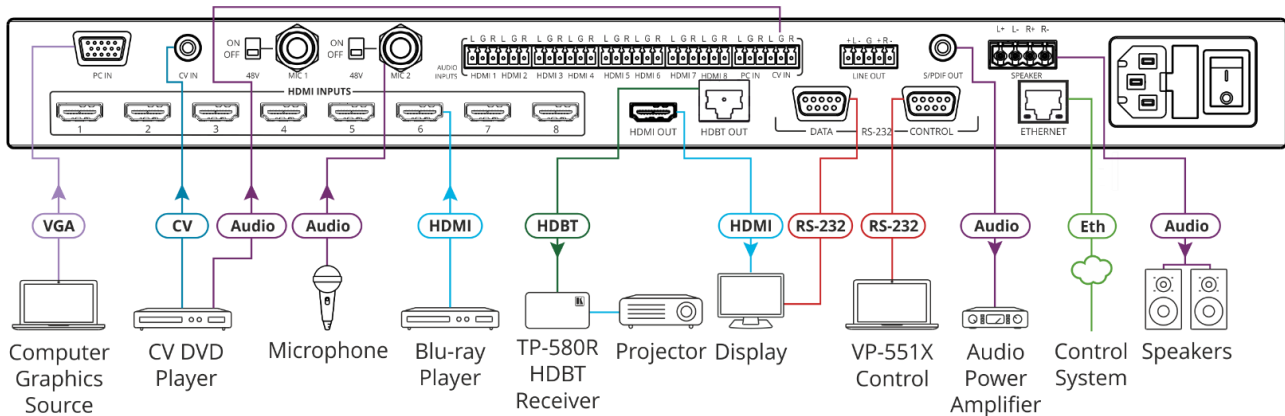

Figure 3: Connecting to the VP-551X Rear Panel
To connect the VP-551X as illustrated in the example in Figure 3:
3. Connect up to 8 HDMI sources (for example, a Blu-ray player to HDMI 5) to the HDMI connectors (12).
4. Connect up to 10 balanced audio sources (for example, the PC audio source to the CV IN AUDIO INPUT) to the AUDIO IN terminal block connectors (21).
5. Connect a microphone to the MIC 2 6mm jack (18) and set the 48V switch on or off, as required (14).
6. Connect the HDMI OUT connector (28) to an acceptor (for example, a display).
7. Connect the HDBT OUT connector (28) to an acceptor (for example, Kramer TP-580R receiver that is connected to a projector).
8. Connect the S/PDIF OUT RCA connector (28) to a digital audio acceptor (for example, an audio power amplifier).
9. Connect the SPEAKER 4-pin terminal block connector (24) to speakers (for example, Kramer Yarden 6-O speakers).
10. Connect the RS-232 DATA 9-pin D-sub connector (30) to the RS-232 port on the display to control it.
11. Connect the RS-232 CTRL 9-pin D-sub connector (31) to the RS-232 port on a controller (for example, a laptop) to control the VP-551X.
12. Connect the ETHERNET RJ-45 port (32) to the Ethernet.
13. Connect the power cord to the VP-551X mains socket (13) and to the mains electricity (not shown in Figure 3).
The LINE OUT 5-pin terminal block connector (22), audio acceptor, and power cord are not shown in Figure 3.